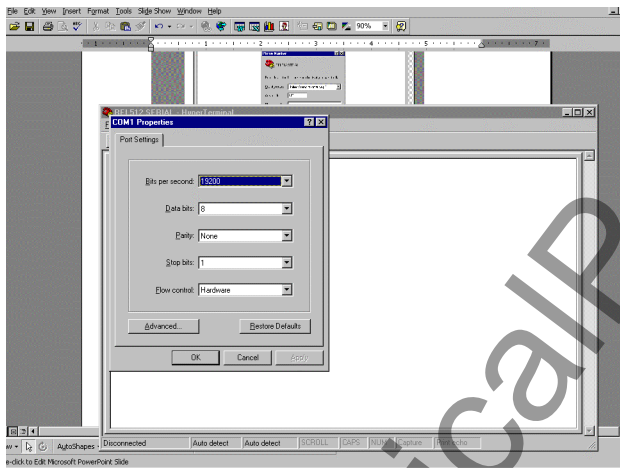

Figure 45 – Com Port Settings Configuration Screen
6. Once the OK pushbutton is depressed, the screen depicted in Figure 45 is presented to the operator. AT commands can now be typed to configure the modem with the appropriate parameters for operation in this system.